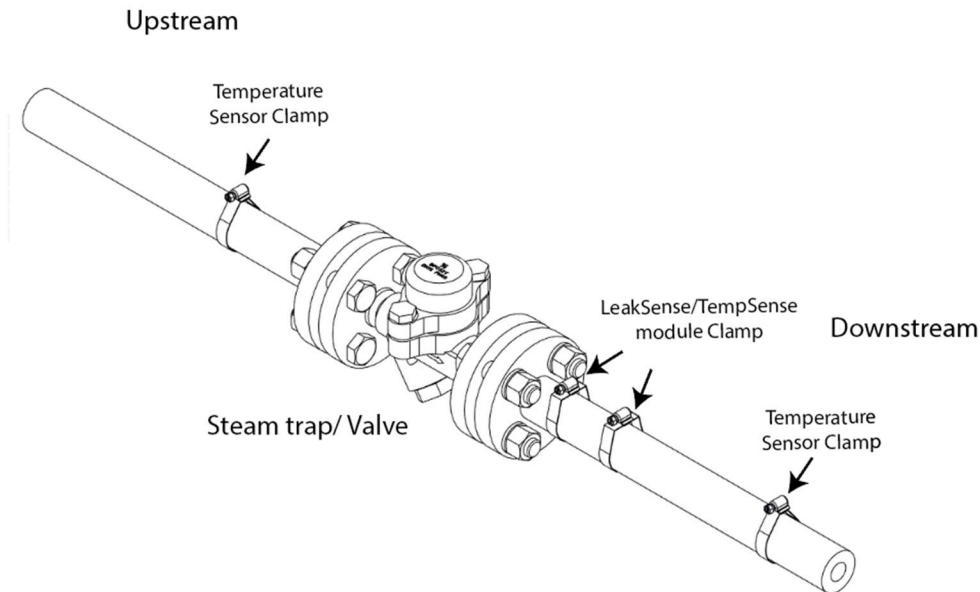

Figure 5.- Pre-clamping installation
4. Place the metallic clamps on the piping and pre-tighten them, to facilitate following steps. Installation using two clamps for the module and one for each temperature sensor is recommended, as can be shown in Figure 5.